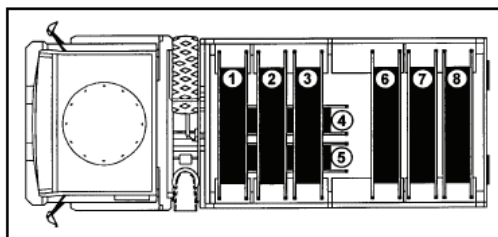

Figure 3-60. Load an M-1085
3. Direct nonmedical Soldiers to load an M-1093. Refer to Figure 3-60.